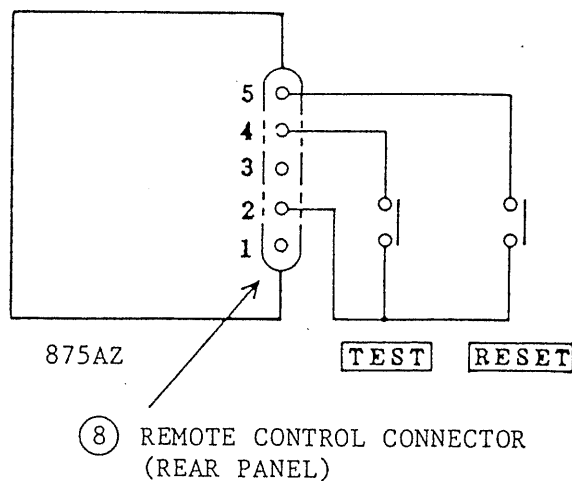

Figure 4.3
- (a) By controlling the TEST and RESET contacts shown in Figure 4.3, the test voltage can be on-off controlled in the same manner as done at the instrument front panel.
(c) Logical elements or transistors may be used instead of the switches in Figure 4.3. The signal status for such operation is shown in Figure 4.5. The input conditions of this instrument for such operation are as follows: